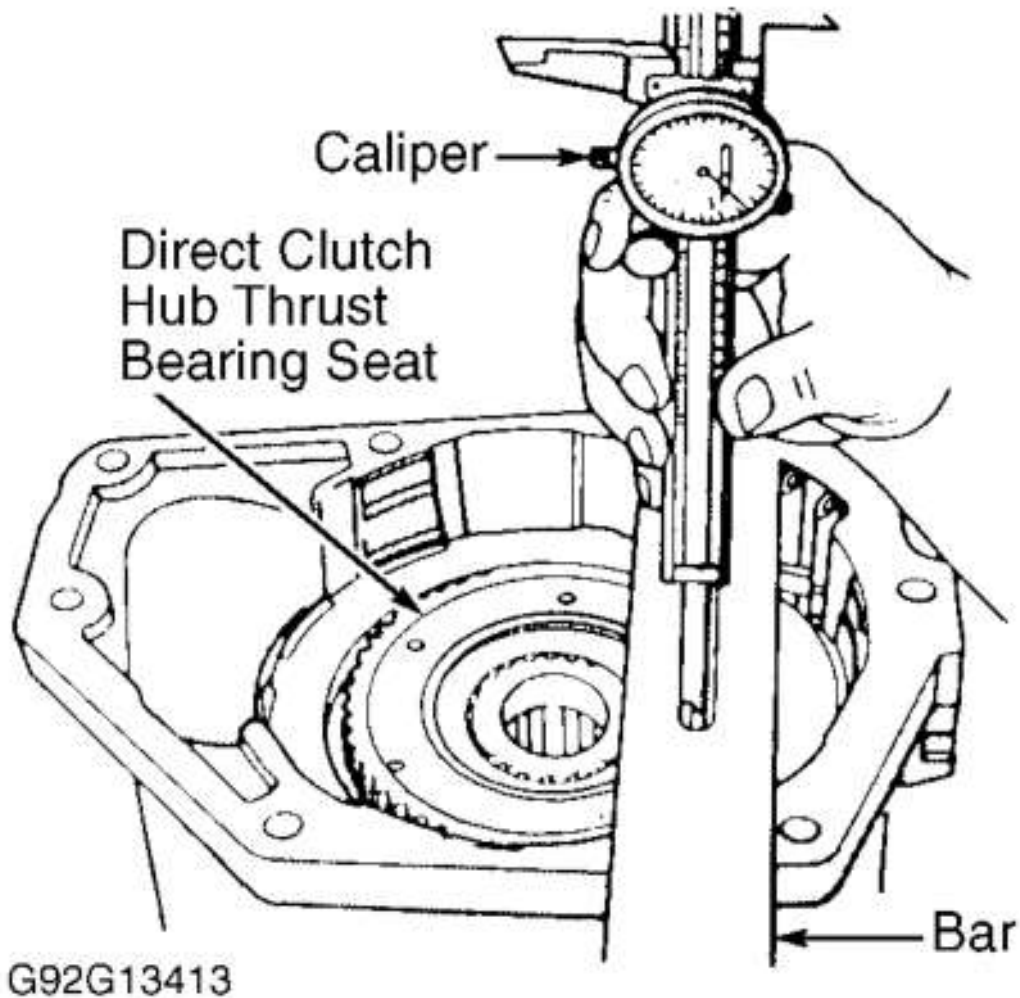

Fig. 52: Measuring Distance To Direct Clutch Hub Thrust Bearing Seat
5. Extend caliper through bar and measure distance to surface of direct clutch hub thrust bearing seat in 4 places, 90 degrees apart. See **Fig. 52** .